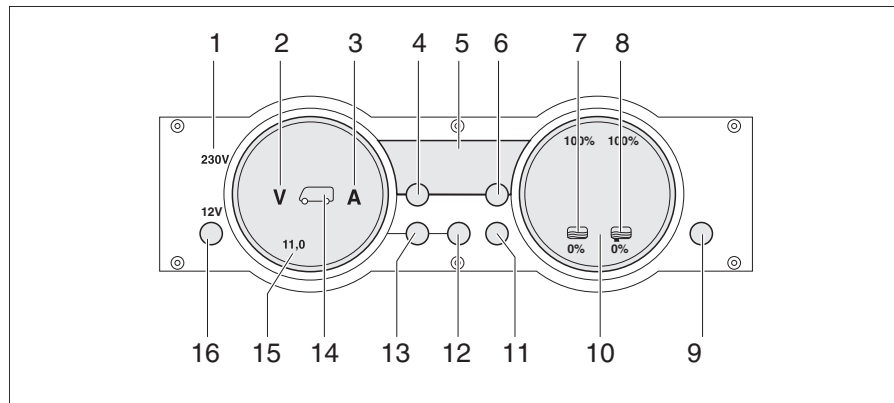

Fig. 250 Panel MP 20-S
The 230 V indicator lamp (Fig. 250,1) lights up whenever line voltage is available at the transformer/rectifier input.
The 12 V main switch (Fig. 250,16) switches the panel and the 12 V power supply of the living area on and off.
- Briefly press the "12 V" button (Fig. 250,16). The 12 V living area power supply is switched on. The "12 V" indicator lights up.
- ▷ If, after switching on, the "11.0" LED of the volt indicator and the "V" volt symbol (Fig. 250,2) in the batteries gauge (Fig. 250,15) flash, the voltage of the living area battery is too low. Charge battery.
- ▷ If, after switching on, the "12 V" indicator, the symbol for the living area battery (Fig. 250,14) and the "V" volt symbol (Fig. 250,2) flash three times, battery separation is activated. Deactivate battery separation.
- Briefly press the "12 V" button (Fig. 250,16). The 12 V living area power supply is switched off. The "12 V" indicator goes out.
- Press button for living area battery (Fig. 250,12) and hold it down for approx. 10 seconds. The "V" volt (Fig. 250,2) and "A" ampere (Fig. 250,3) symbols flash three times. The living area battery is disconnected from the 12 V power supply.
- Press the living area battery  button (Fig. 250,12). The "V" volt symbol (Fig. 250,2) lights up. Depending on whether the battery is being charged or discharged, the "A" ampere symbol lights up white or red respectively. The battery voltage and current of the living area battery are displayed using the LEDs in the gauge.
- Press the starter battery  button (Fig. 250,13). The "V" volt symbol (Fig. 250,2) lights up. The battery voltage of the starter battery is displayed using the LEDs in the gauge.
- Press the Tanks "" button (Fig. 250,11). The water tank "" (Fig. 250,7) and waste water tank "" (Fig. 250,8) symbols light up. The fill level of the water tank (left-hand scale) and the waste water tank (right-hand scale) are indicated using the LEDs in the gauge.
The "V" volt symbol (Fig. 250,2) and the "11.0" LED flash as soon as the battery voltage falls below 11 V (measured during operation) and there is the threat of a total discharge.
The water tank symbol  (Fig. 250,7) or waste water tank symbol  (Fig. 250,8) flashes when the water tank is empty or the waste water tank is full.